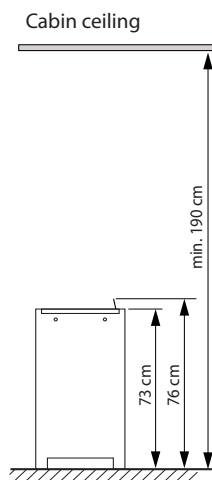

Fig. 1
- The minimum height of the sauna cabin must be 1.90 m on the inside. (see Fig 1.)